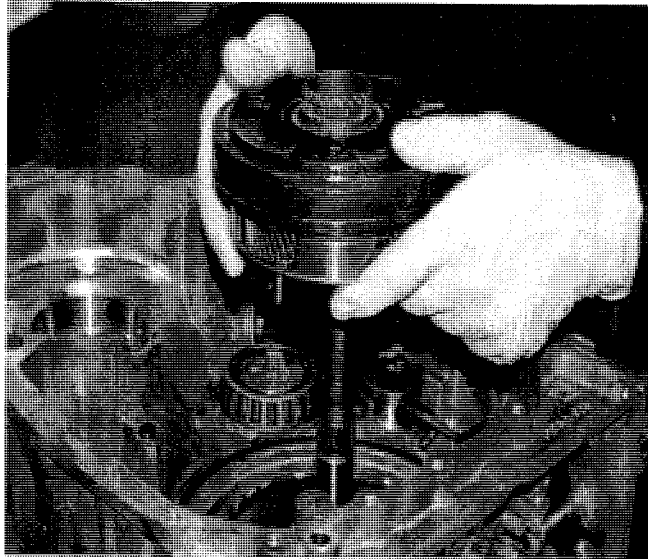

Fig. 6 Gear 4 Planetary Pinion Carrier Assembly
19. Remove the Gear 4 Annulus and Planetary Pinion Carrier assembly. See (Fig. 6).